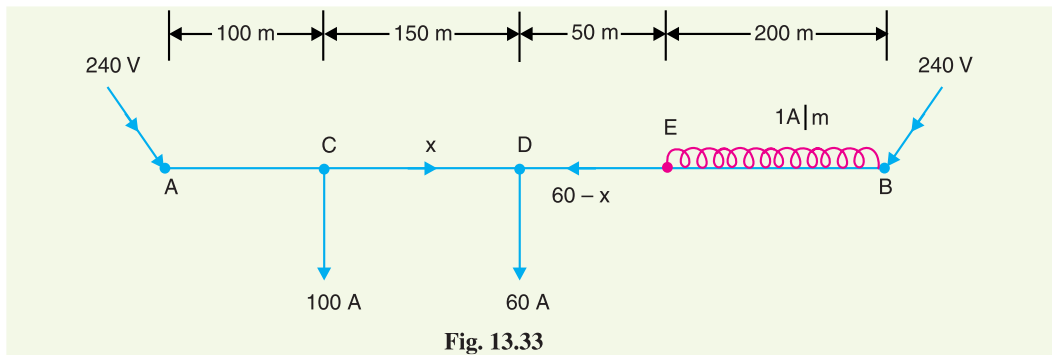

Fig. 13.33
**Example 13.21.** A d.c. 2-wire distributor AB is 500m long and is fed at both ends at 240 V. The distributor is loaded as shown in Fig 13.33. The resistance of the distributor (go and return) is  $0.001\Omega$  per metre. Calculate (i) the point of minimum voltage and (ii) the value of this voltage.
**Solution.** Let D be the point of \*\*minimum potential and let  $x$  be the current flowing in section CD as shown in Fig 13.33. Then current supplied by end B will be  $(60 - x)$ .